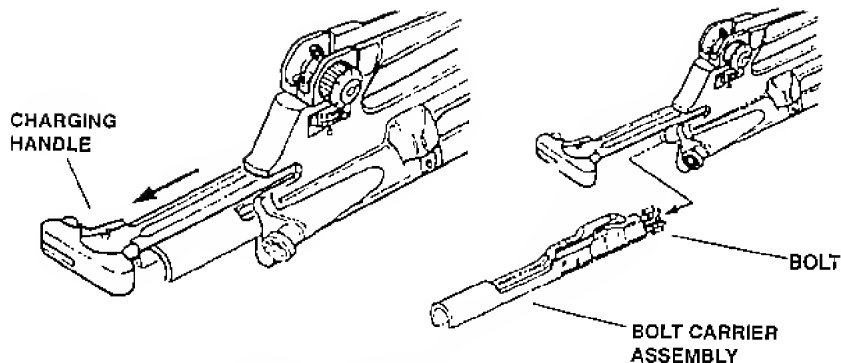

FIGURE 12 — REMOVE BOLT CARRIER ASSEMBLY
5. Pull charging handle to rear and remove bolt carrier assembly (223 cal), bolt assembly (9mm). (See Figure 12.)